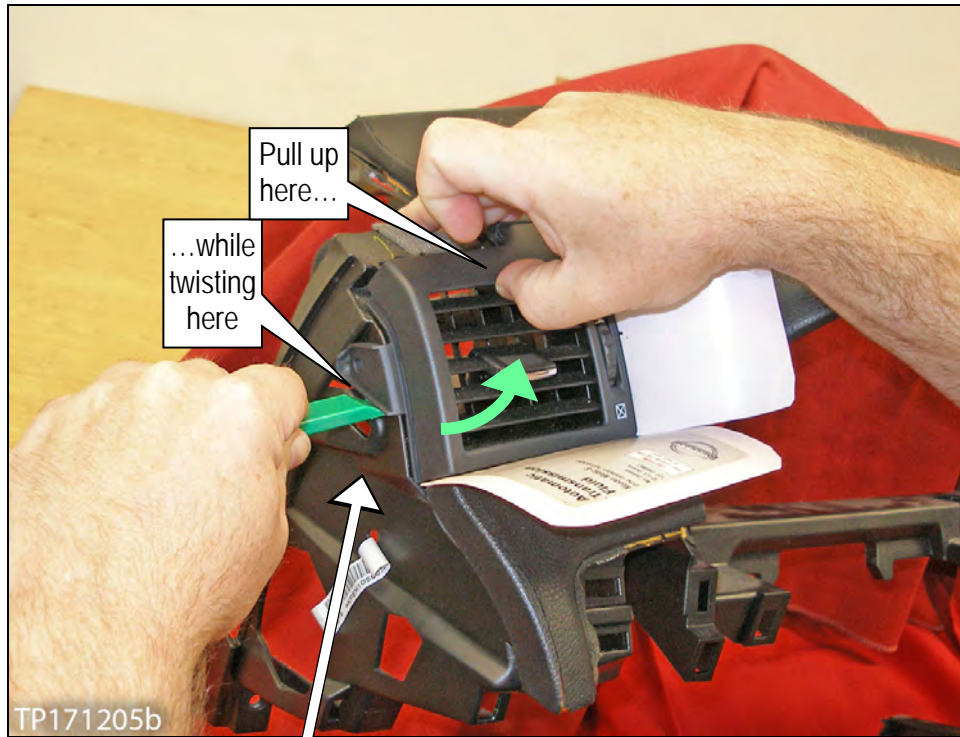

Figure 24
- Remove the side ventilator grille as shown in Figure 24.